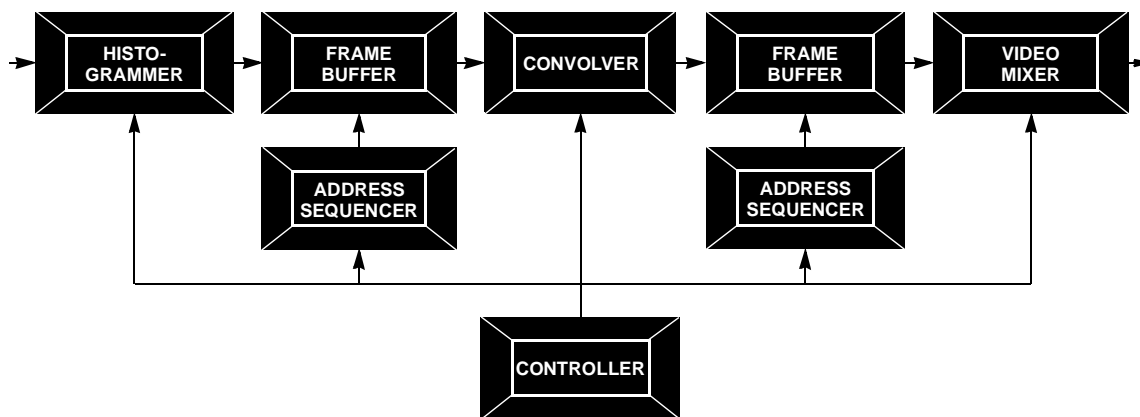

FIGURE 9. VIDEO SIGNAL PROCESSING BLOCKS
- Applications: A wide range of video signal processing applications. See Figure 9.
Many digital video processing applications require the use of high-speed, real-time, processing blocks that can manipulate and process the image information as it is delivered, without noticeable delay. Intersil offers such blocks that are capable of all that we have mentioned above. Among these processing blocks are data and frame buffers to hold image information (image pixel data), address sequencers to manipulate the order in which image pixel data is processed, digital filters and convolvers to produce special effects like edge detection, image smoothing, and image sharpening, histogrammers to equalize image contrast, and mixers to combine video images. Here, you will be introduced to these blocks to gain a basic understanding of the purpose for each. See Figure 9.
provide a time delay in the flow of the data or to present the data in a two-dimensional array so the data can be rearranged for some special effect involving image manipulation. Applications include sample rate conversion, time delay, data alignment, serial data shifting, audio processing, and video delay lines. Data buffers are characterized in terms of the number of data bits for input, output, and storage, and maximum clock speed. Very often, an address sequencer is used to control image buffers, also called frame buffers. This is illustrated in Figure 9.